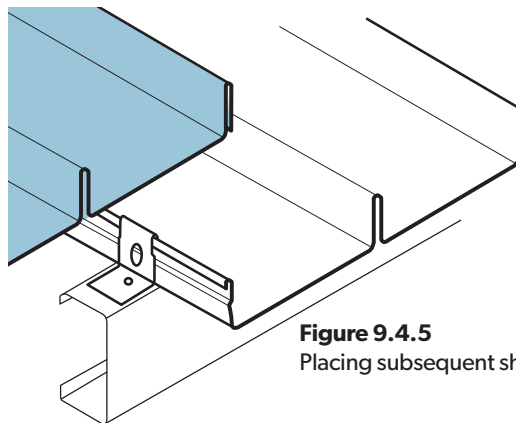
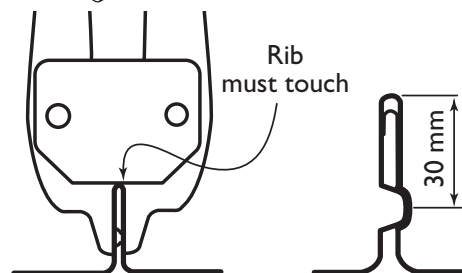

Figure 9.4.5
Figure 9.4.6
2. Place top fixing clips over each squashed male rib and fix to the purlins (Figure 9.4.5). With a felt-tipped pen, make a small mark in the pan to enable you to locate the clips in the later locking operation with the button punch (Figure 9.4.6).
3. Place the next sheet over the edge of the preceding sheet (Figure 9.4.5).
All lapped ribs must be locked along their length, by button-punching at the clips, and if necessary between the clips (typically at 900mm centre to centre. Figure 9.4.6). Punching to a string line guide stretched across the sheeting is recommended as random punching mars the appearance of the finished work.